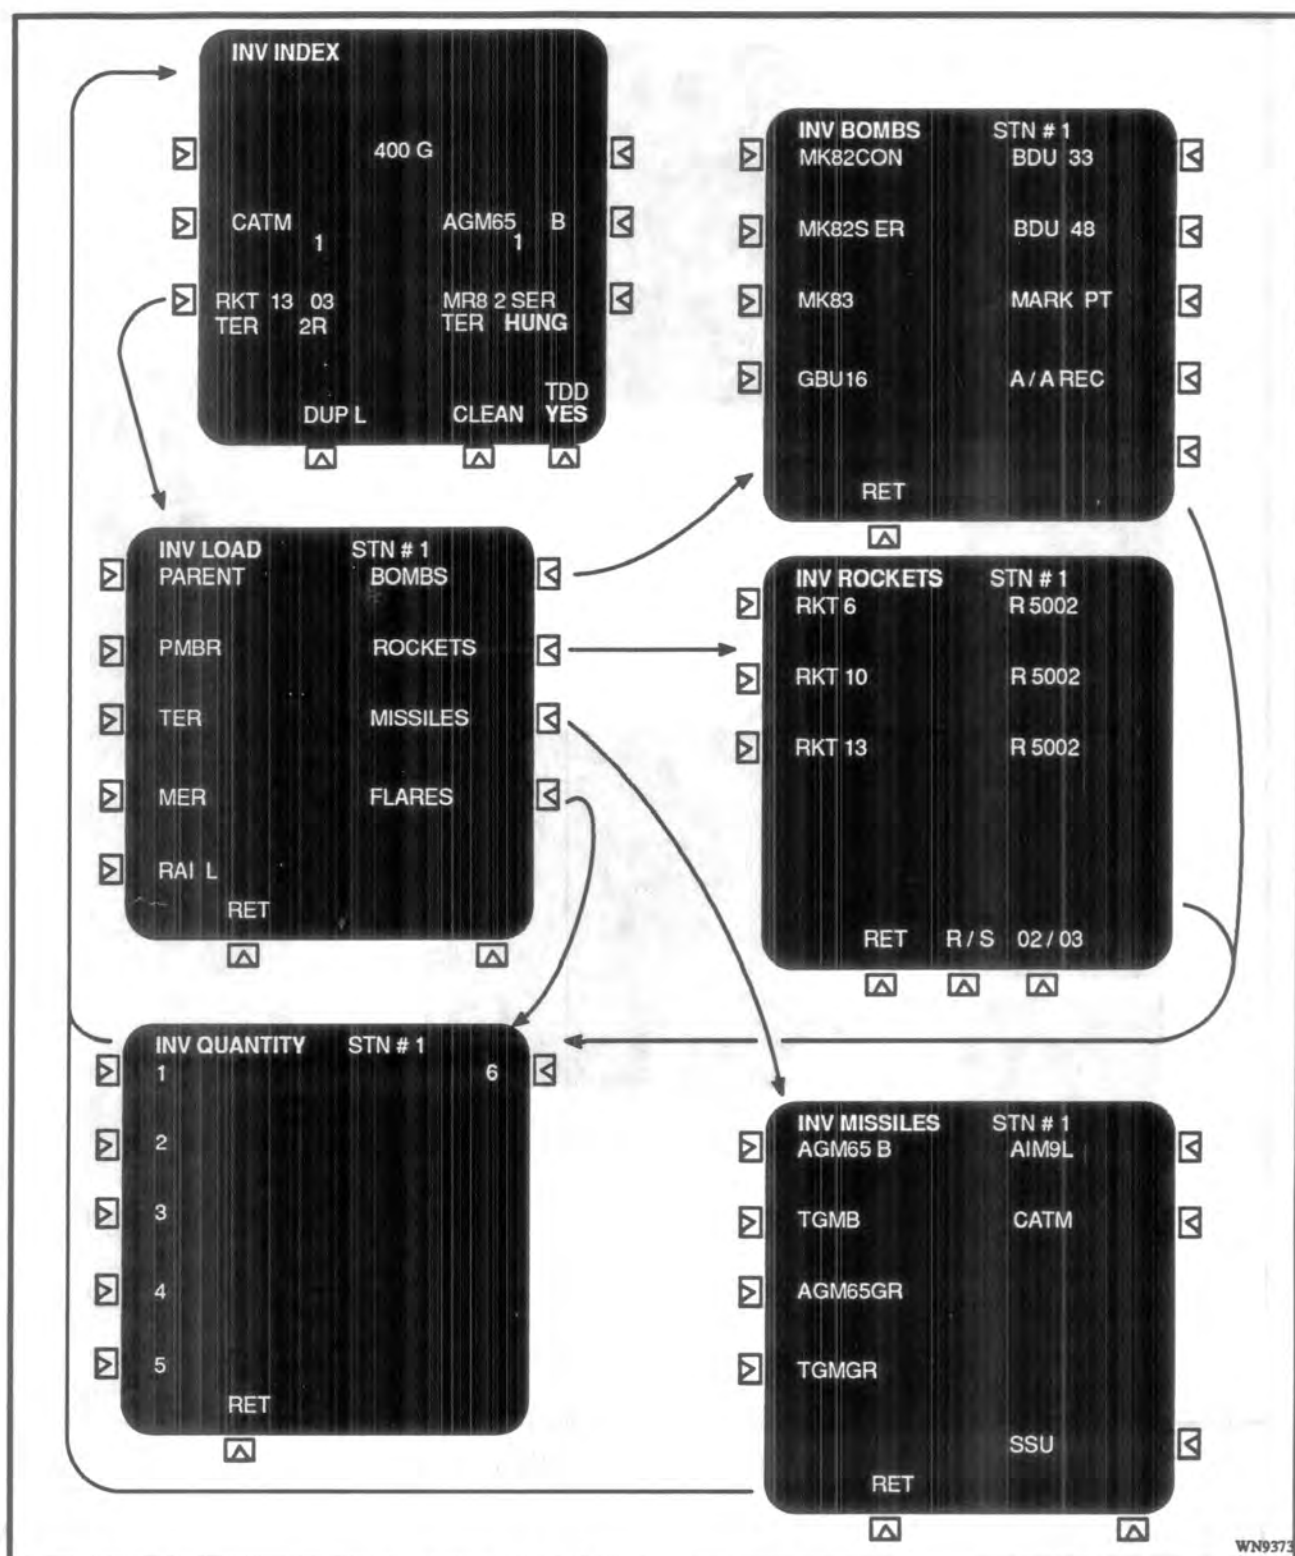

Figure 8-22 Inventory Load Displays
8.97 To load a station, press the soft key adjacent to the desired station to display the INV LOAD page for that station (shown in Figure 8-22).
8.111 The field adjacent to the upper left soft key is the weapon used by this program. To alter the weapon, press the upper left soft key to display the A/G LOAD page. The A/G LOAD page shown in Figure 8-22 provides selection of a weapon type. To select a weapon type, press the adjacent soft key. In the case of bombs, rockets, and missiles, selection of the specific weapon is provided via the A/G BOMBS, A/G ROCKETS, and A/G MISSILES pages, respectively. To select a weapon, press the adjacent soft key. After selecting the desired weapon, the display returns to the A/G PROGRAM page and the format of the page will be for the newly selected weapon type.